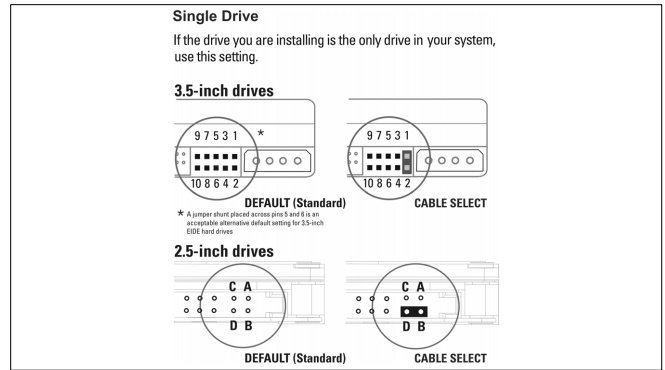

Figure 3. EIDE Single Hard Drive Jumper Settings
To install your new WD hard drive as the only hard drive in your system, use jumpers as shown in Figure 3.
2. Check jumper settings (see Figures 3 and 4).
Important: CSEL jumper settings cannot be used when alternate jumpers are selected. Use the jumper settings illustrated in Figure 3 or 4 for CSEL. Alternate jumper settings are not intended for systems other than Windows 98/98SE/Me.